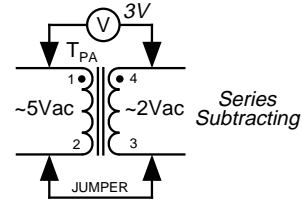

Figure 11. Forward Transformer
1. Check the voltage at the forward transformer across pins 1 and 2 and again across 3 and 4. See Figure 11.